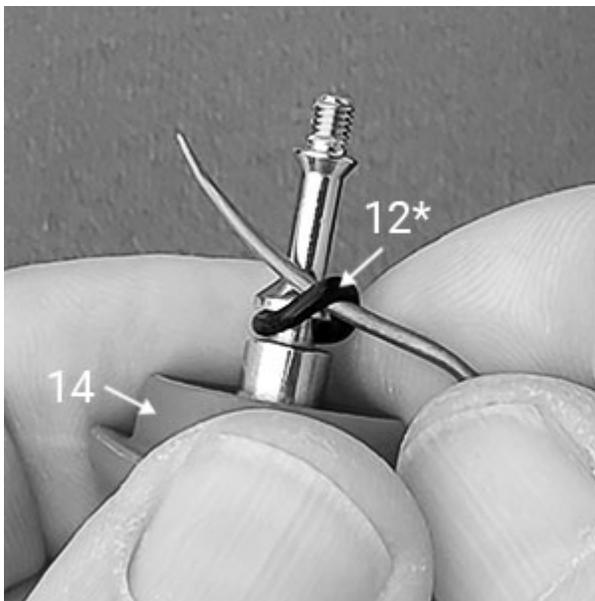
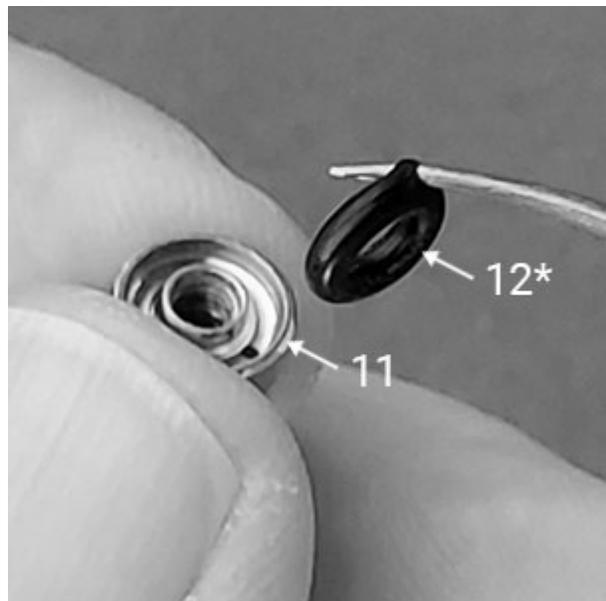

Fig. 9
Fig. 10
7. Using a thin brass pick, remove O-ring (12*) from the shaft of the Inflation Button - Fig. 9. The metal shaft of the Inflation button is permanently bonded to the plastic top - do not try to separate. Use a thin brass pick to pry out the sealing O-ring (12*) from the Cone Seat - Fig. 10.